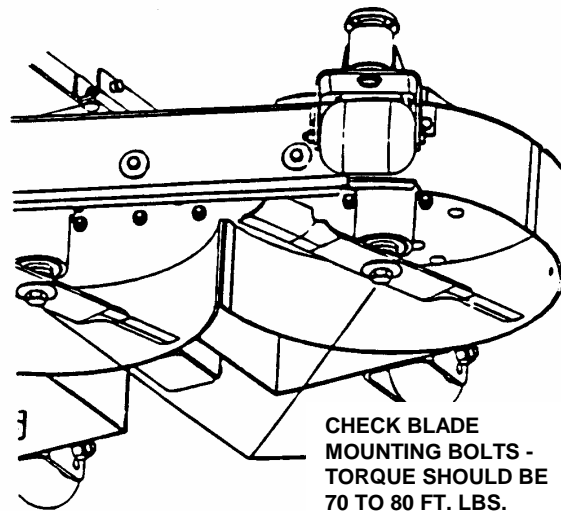

FIGURE 3.2
4. Check torque of blade mounting bolts. As necessary, torque to 70 to 80 ft. lbs. See Figure 3.2.